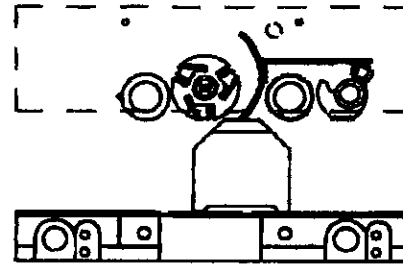

Figure 16 – Chipbreaker with Block
- Remove feeler gauge and slide adjustment block under chipbreaker (See Figure 16). Chipbreaker should just contact adjustment block. If chipbreaker is too high or too low, loosen hex nut on set screw (Figure 19, Key Nos. 3 and 29) under chipbreaker. Rotate set screw to position chipbreaker properly. Secure position by tightening hex nut on set screw.